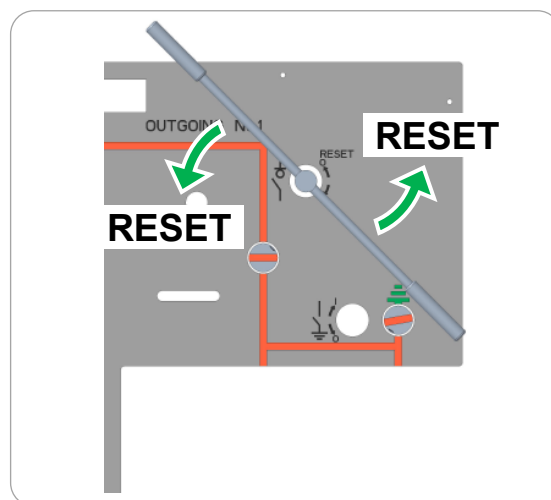

Figure 13. RESET operation
- ② Operate LBS to reset. [Figure 13]
- ③ The status remains as OFF/OPEN state.
- ④ After these reset operation, LBS can be normally operated following CLOSE operation.